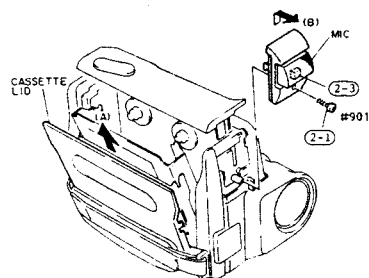

Fig. 2-21
1) Remove the cassette lid in the direction of arrow (A). (See Fig. 2-21)
- 1) Remove one (1) screw holding the MIC. (See Fig. 2-21)
- 2) Remove the MIC in the direction of arrow (B).